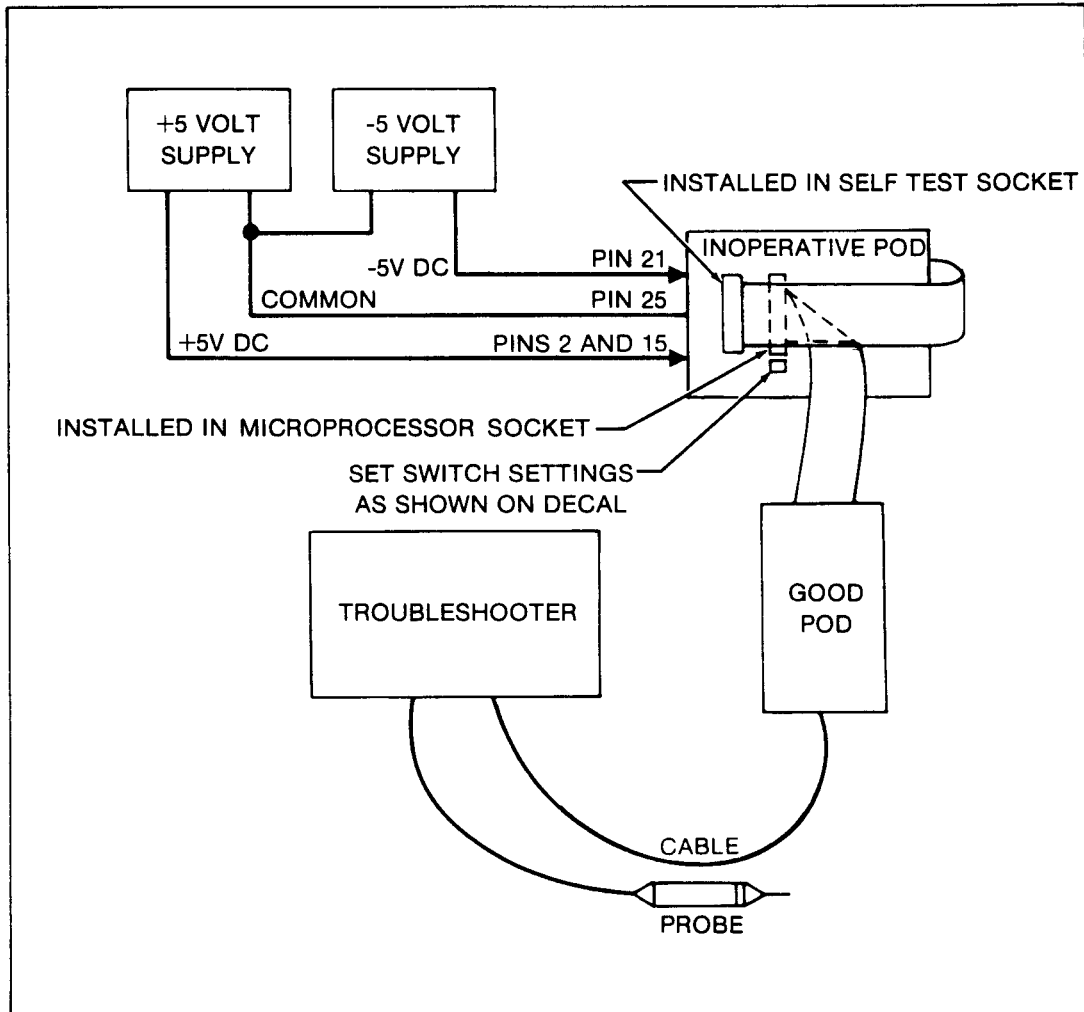

Figure 6-2. Troubleshooting an Inoperative Pod
5. If a second troubleshooter is available, connect the pod cable plug from the inoperative pod to the second troubleshooter to supply the inoperative pod with power. If a second troubleshooter is not available, connect a +5V dc (2A) power supply and a -5V dc (200 mA) power supply to the inoperative pod as shown in Figure 6-2. An easy place to make the power connections is at the connector that
6. Connect the troubleshooter to the good pod as shown in Figure 6-2. Apply power to the troubleshooter, then install the ribbon cable plug of the good pod in the microprocessor socket of the inoperative pod.